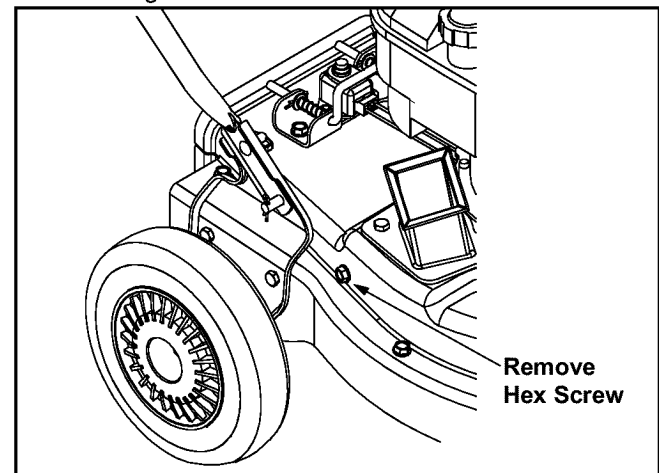

Figure 11
- Remove hex screw on right side of unit that attaches to the fail screen. See Figure 11.